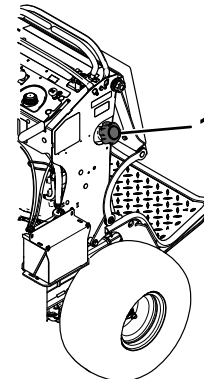

Figure 51
3. Clean around the fuel cap to prevent debris from getting into the fuel tank (Figure 51).